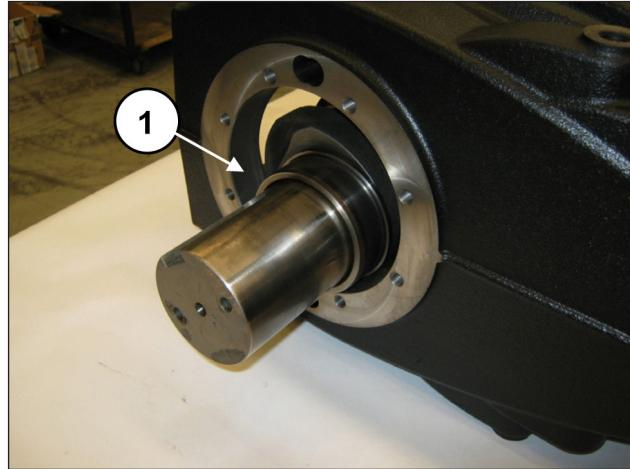
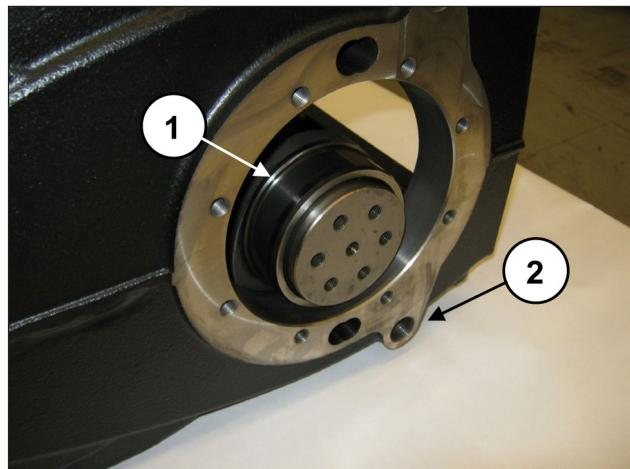

Fig. 51
Fig. 52
The crankshaft must always be assembled with the PTO on the opposite side with respect to the G1/2" holes for the oil discharge plugs on the pump casing (pos. ②, Fig. 52).
Fully insert the shaft into the casing (pos. ①, Fig. 51 and Fig. 52).